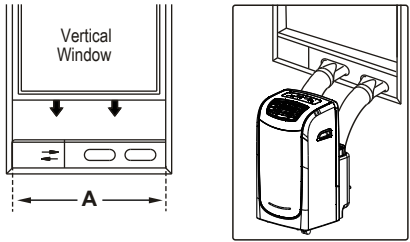

Fig. 2
Your optional, 2-piece Window Slider Kit has been designed to fit most standard vertical and horizontal windows (Fig. 2 & 3). However, it may be necessary to cut the Slider shorter to fit windows that are less than 2.22 ft. (67.5 cm) wide (Type I) or less than 1.84 ft. (56.2 cm) wide (Type II). See Fig. 4 below for minimum and maximum window openings (A) that the Window Slider Kit will fit *without* modification.